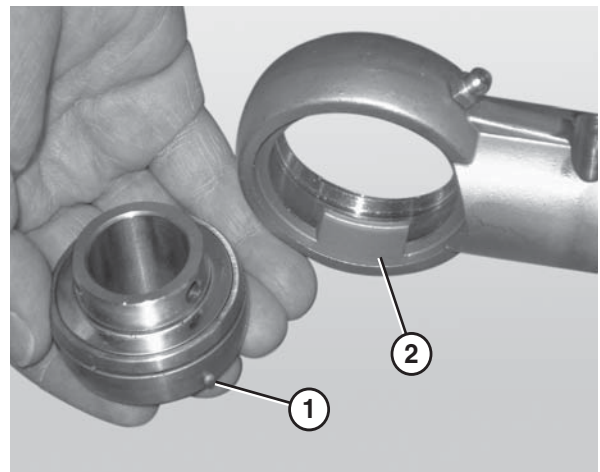

Figure 71
4. Remove the worn or damaged bearing (**Figure 71**).
*When inserting the new bearing, make sure the anti-rotation notch (**Figure 71, item 1**) on the bearing lines up with the groove inside the housing (**Figure 71, item 2**).*